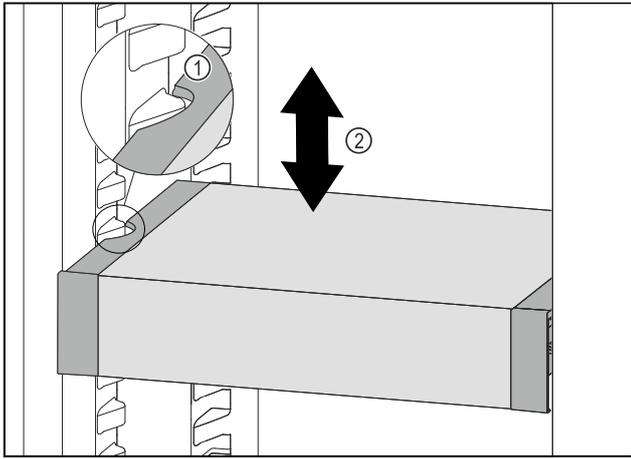

Fig. 126
- ▶ Pull VarioSafe forwards until the recesses in the side of the VarioSafe are at the level of the support rib in the refrigerator compartment. *Fig. 126 (1)*
- ▶ Move VarioSafe up or down in the refrigerator compartment until the desired height is reached. *Fig. 126 (2)*